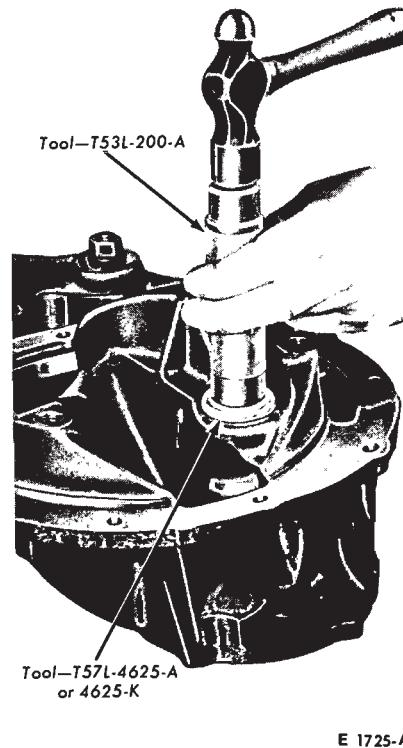

FIG. 28—Removing Pilot Bearing
1. Remove the pilot bearing as shown in Fig. 28. Drive out the pilot bearing and the bearing retainer together.